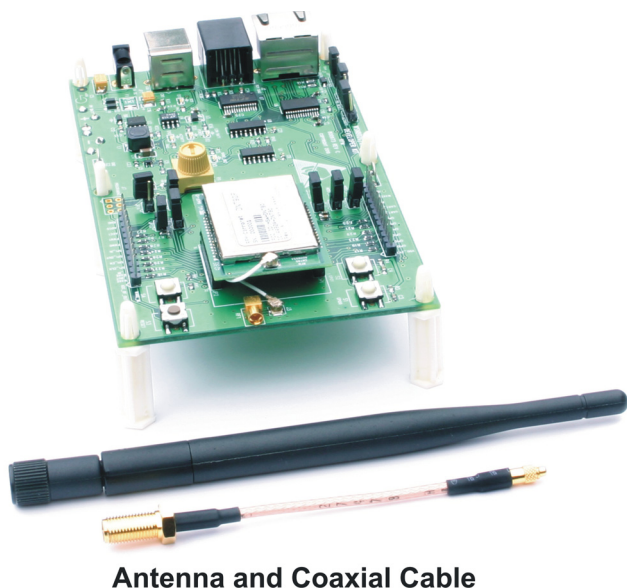

Figure 1
1. Figure 1 shows a DNT90P radio installed on an interface board, an MMCX-to-RSMA antenna adaptor cable, and a 2 dBi dipole antenna. Observe ESD precautions when handling the kit circuit boards.